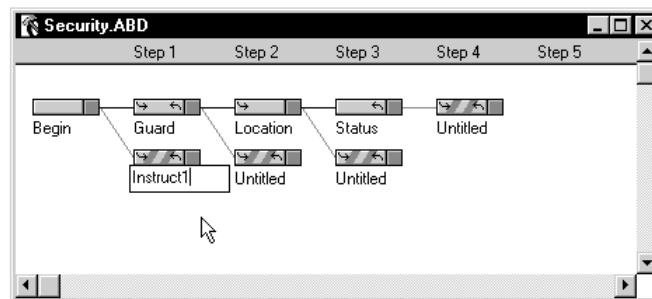

Figure 4-56 Detour Handler Named
30. Type **Instruct1** (Figure 4-56). We will now refer to this Detour Handler as the “Instruct1” Handler.